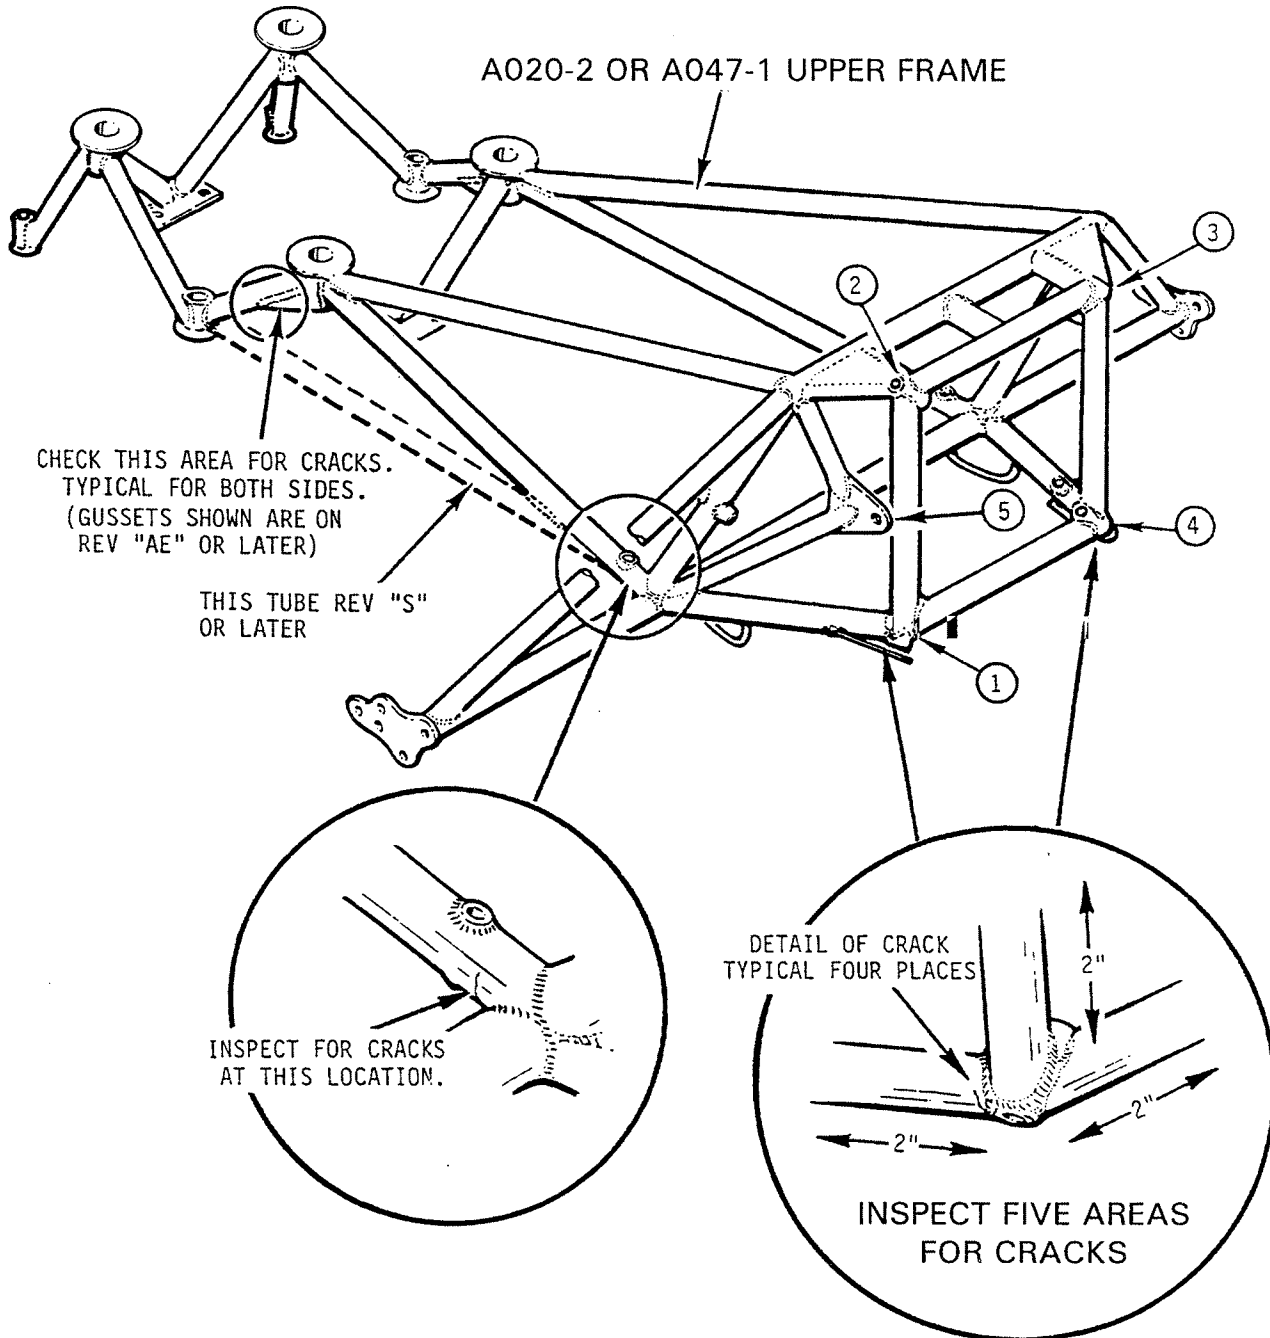

FIGURE 2-12 UPPER FRAME CRACK INSPECTION
- b. See Figure 2-12. Using a Section 1.410 approved paint stripper, remove paint from and within 2 inches of tailcone attach points on upper frame.
4. See Figure 2-12. Using a Section 1.410 approved paint stripper, remove paint from and within 2 inches of tailcone attach points on upper frame. Dye penetrant inspect upper steel tube frame at tailcone attach points.